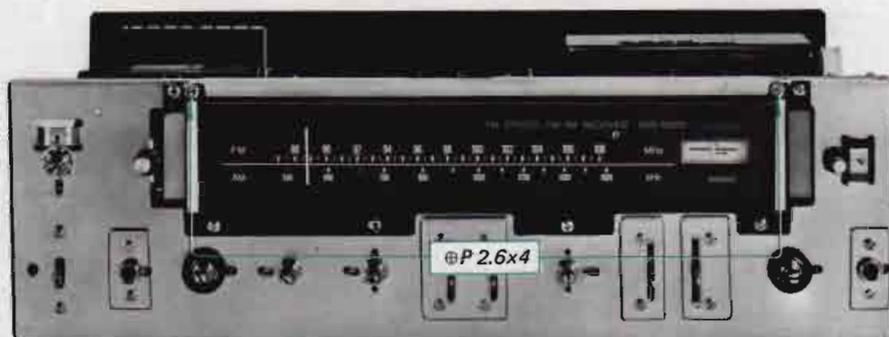

Fig. 2-12. Dial scale removal
3. Remove the two screws ($\text{P } 2.6 \times 4$) securing the dial-scale holder to the front subchassis as shown in Fig. 2-12.